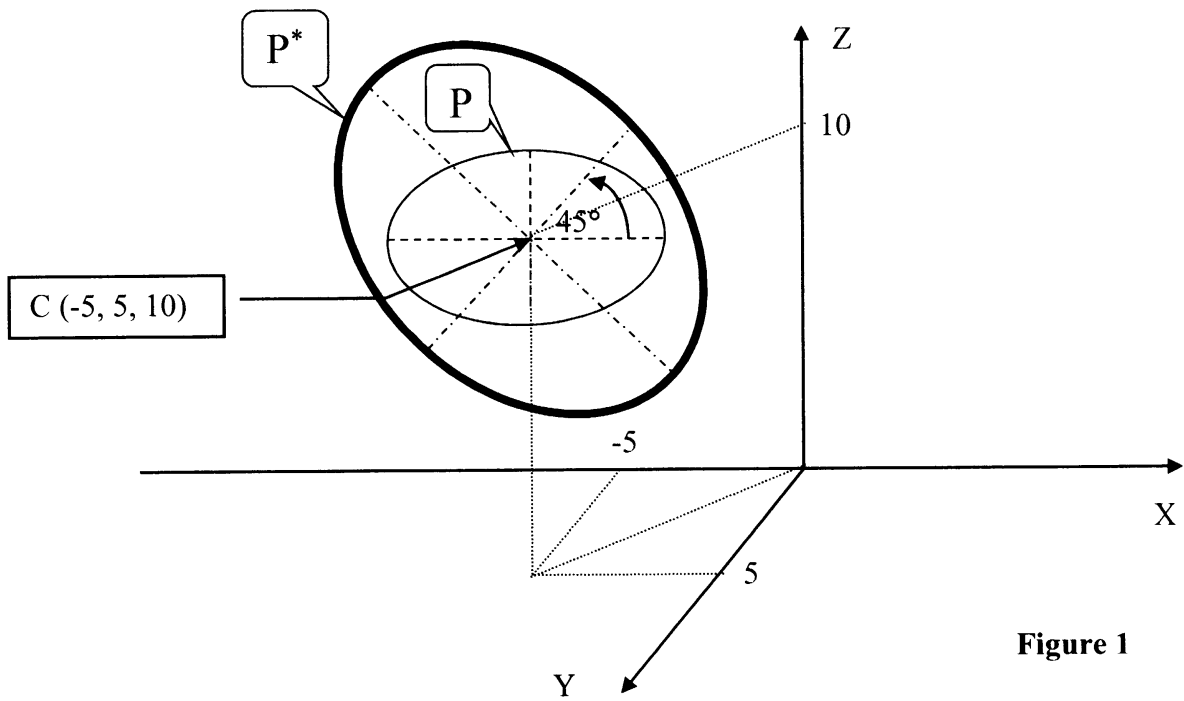

Figure 1
2.1 In figure 1, determine the matrix of each position  $P^*$  on ellipse object after rotation  $45^\circ$  on Y-axis and then scaling by non-uniform scaling at scaling factor  $X=2.0$ , and  $Z=2.0$  Its ellipse center is  $C(-5, 5, 10)$  while  $a=5$ ,  $b=3$  are the semi-major axis and semi-minor axis.